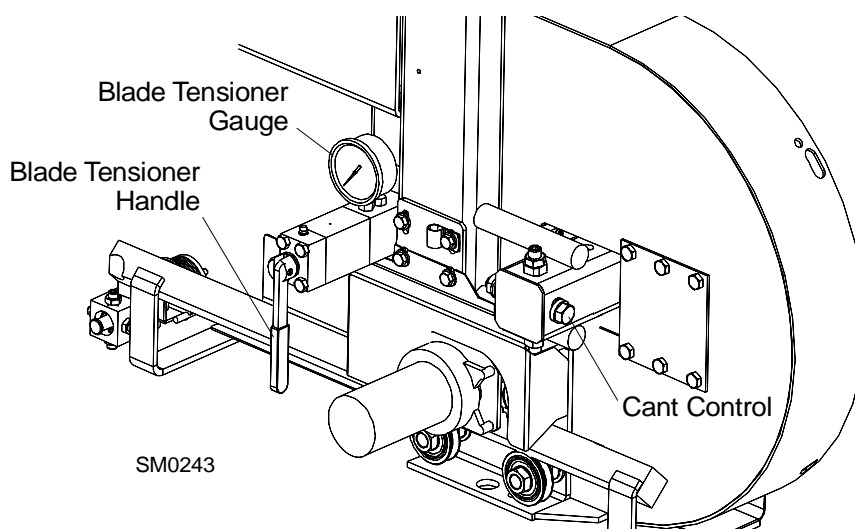

FIG. 2-6
See **Figure 2-6**. Tension the blade by turning the hydraulic tensioning handle clockwise until the tension gauge indicates the recommended tension.
5. To adjust where the blade travels on the blade wheels, use the cant control shown in **Figure 2-6**.